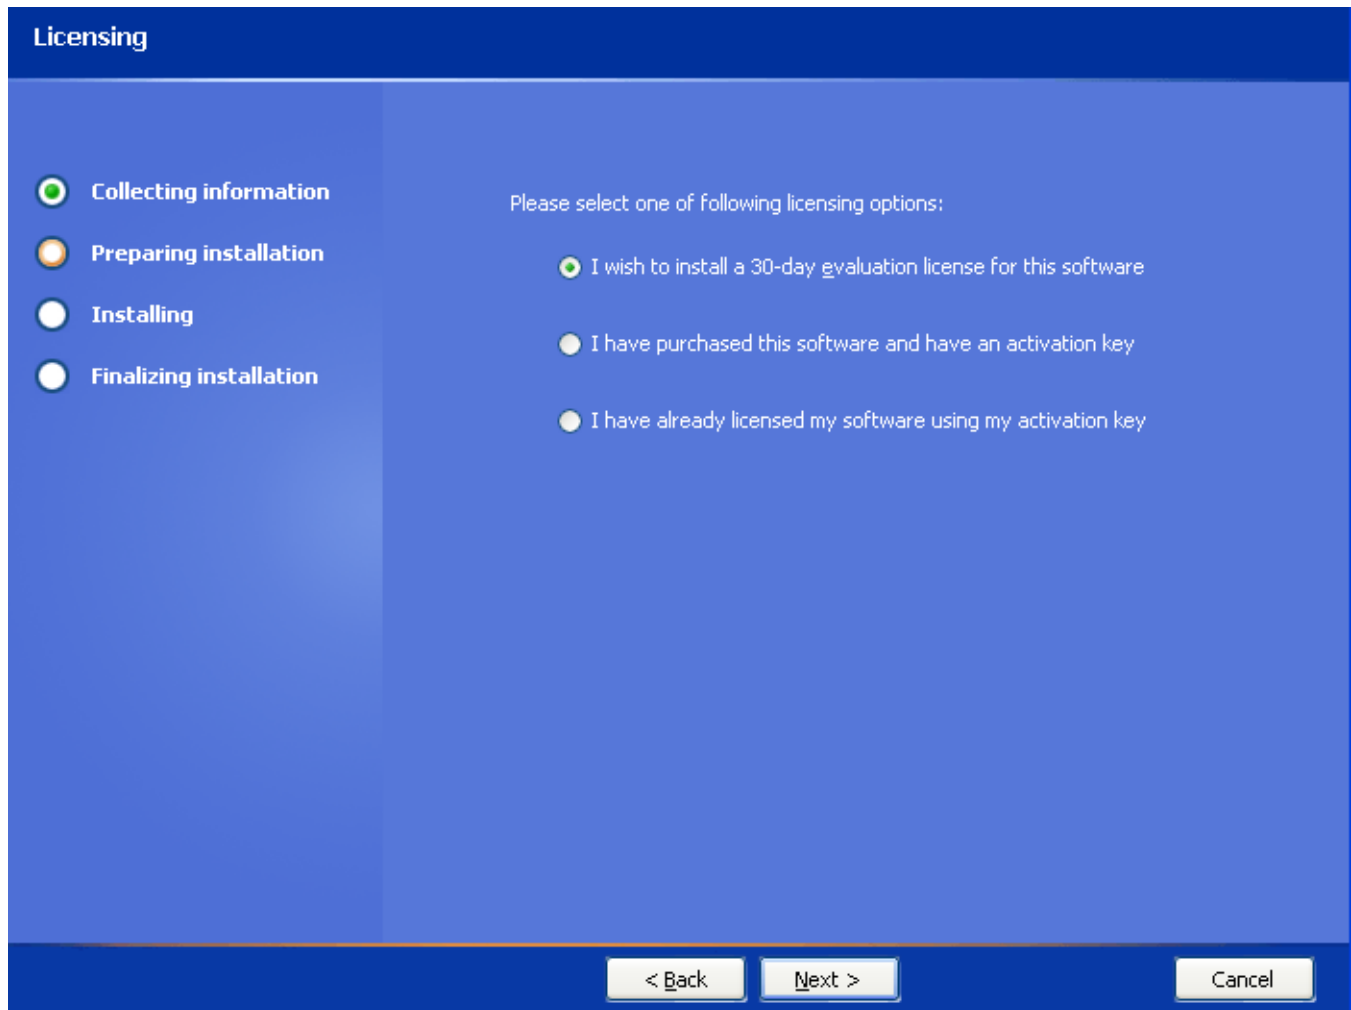

Figure 69 - Licensing Screen
16. Click on the **Next** button to accept the default password. The **Licensing** screen (Figure 69) appears.